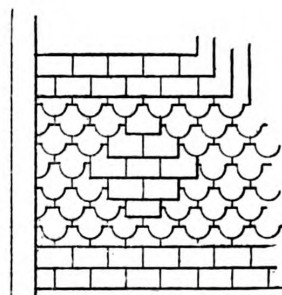

Fig. 24.—Design Varied From Fig. 23.
23. Such a slated roof looks exceedingly well, as the writer can personally testify. A few ordinary square slates inserted among these, as in Fig. 24, may be used to add variety.